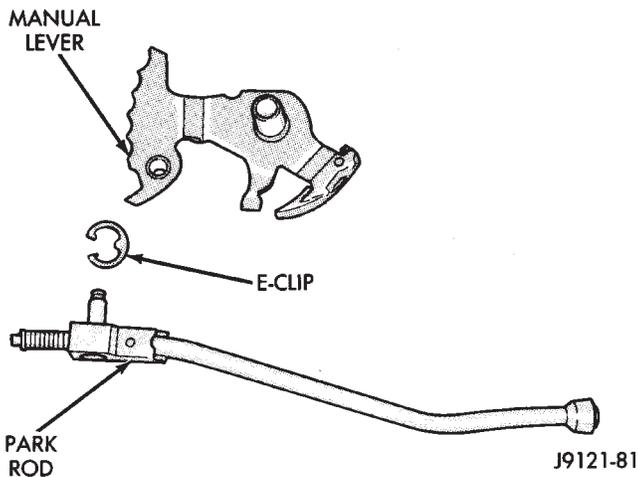

Fig. 72 Park Rod
(15) Remove park rod E-clip and separate rod from manual lever (Fig. 72).